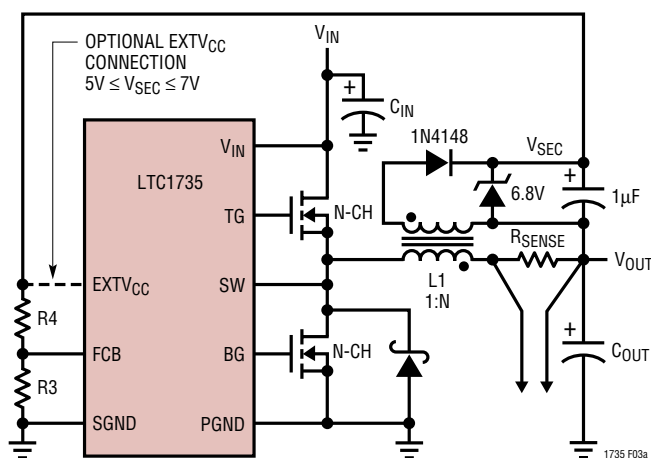
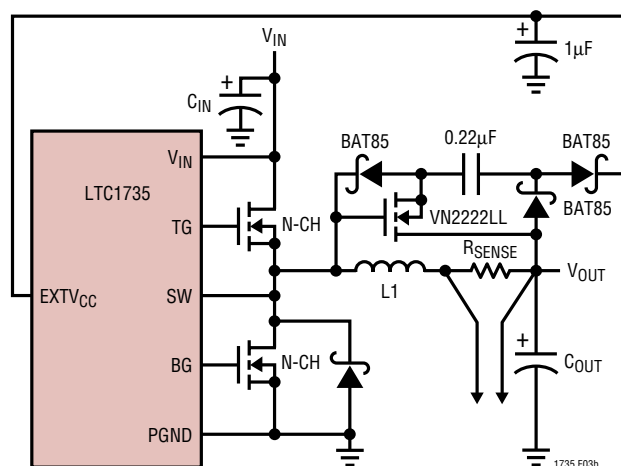

Figure 3a. Secondary Output Loop and EXTV_{CC} Connection
Figure 3b. Capacitive Charge Pump for EXTV_{CC}
3. EXTV_{CC} connected to an output-derived boost network. For 3.3V and other low voltage regulators, efficiency gains can still be realized by connecting EXTV_{CC} to an output-derived voltage that has been boosted to greater than 4.7V. This can be done with either the inductive boost winding as shown in Figure 3a or the capacitive charge pump shown in Figure 3b. The charge pump has the advantage of simple magnetics.
The secondary output voltage V_{SEC} is normally set as shown in Figure 3a by the turns ratio N of the transformer: